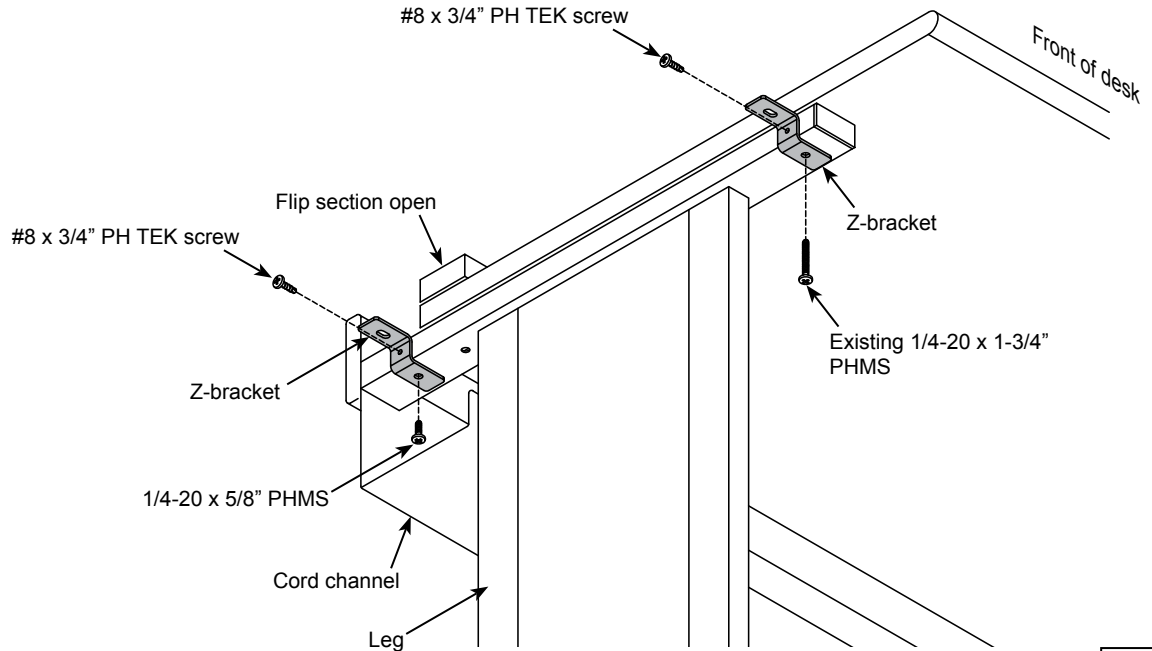

Figure 2
2. Position Z-brackets as shown in **Figure 2**. (The elongated hole in the Z-bracket will attach to the corner connector.) Attach the rear Z-bracket to the leg using a 1/4-20 x 5/8" PHM screw as shown in **Figure 2**, attach the front Z-bracket with the existing 1/4-20 x 1-3/4" PHM screw. Tighten completely.